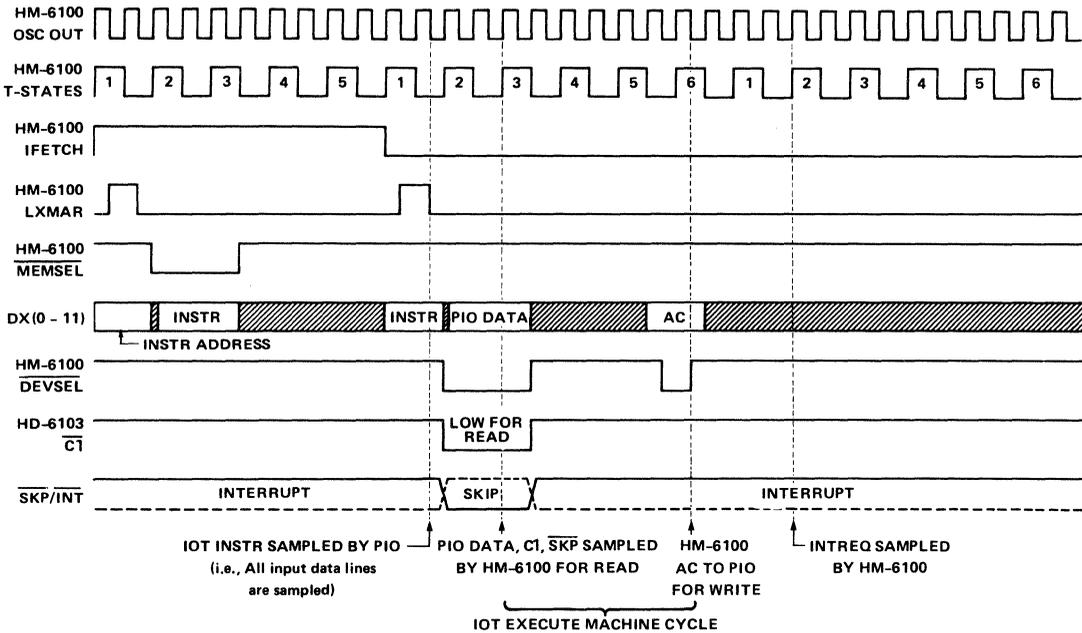

FIGURE 3 – HD-6103 System Timing Diagram
The three-state bi-directional 12-bit DX bus is used to transfer data and control information (Fig. 3) between the HD-6103 and the HM-6100 microprocessor. The HM-6100 transmits the device address and control information on the DX bus during the 'execute' phase of an Input-Output Transfer (IOT) instruction. The HD-6103 accepts this information on the falling edge of the LXMAR (Address Latch Enable) Signal.
externally hard-wired to match the DX6 and DX7 chip select bits. As shown in Fig. 3,  $\overline{DEVSEL}$  goes low, during the first half of an IOT execute machine cycle for a read operation and it goes low again in the second half for a write operation. The HD-6103 responds to a 'read' instruction by putting data on the DX bus and  $\overline{CT}$  output (of HM-6100) low when  $\overline{DEVSEL}$  (from HM-6100) input is low.  $\overline{CT}$  line goes low to indicate an input transfer cycle to the HM-6100. All PIO data transfers to the HM-6100 Accumulator (AC) is an 'OR' transfer, (i.e., PIO data is OR'ed into the contents of the AC).